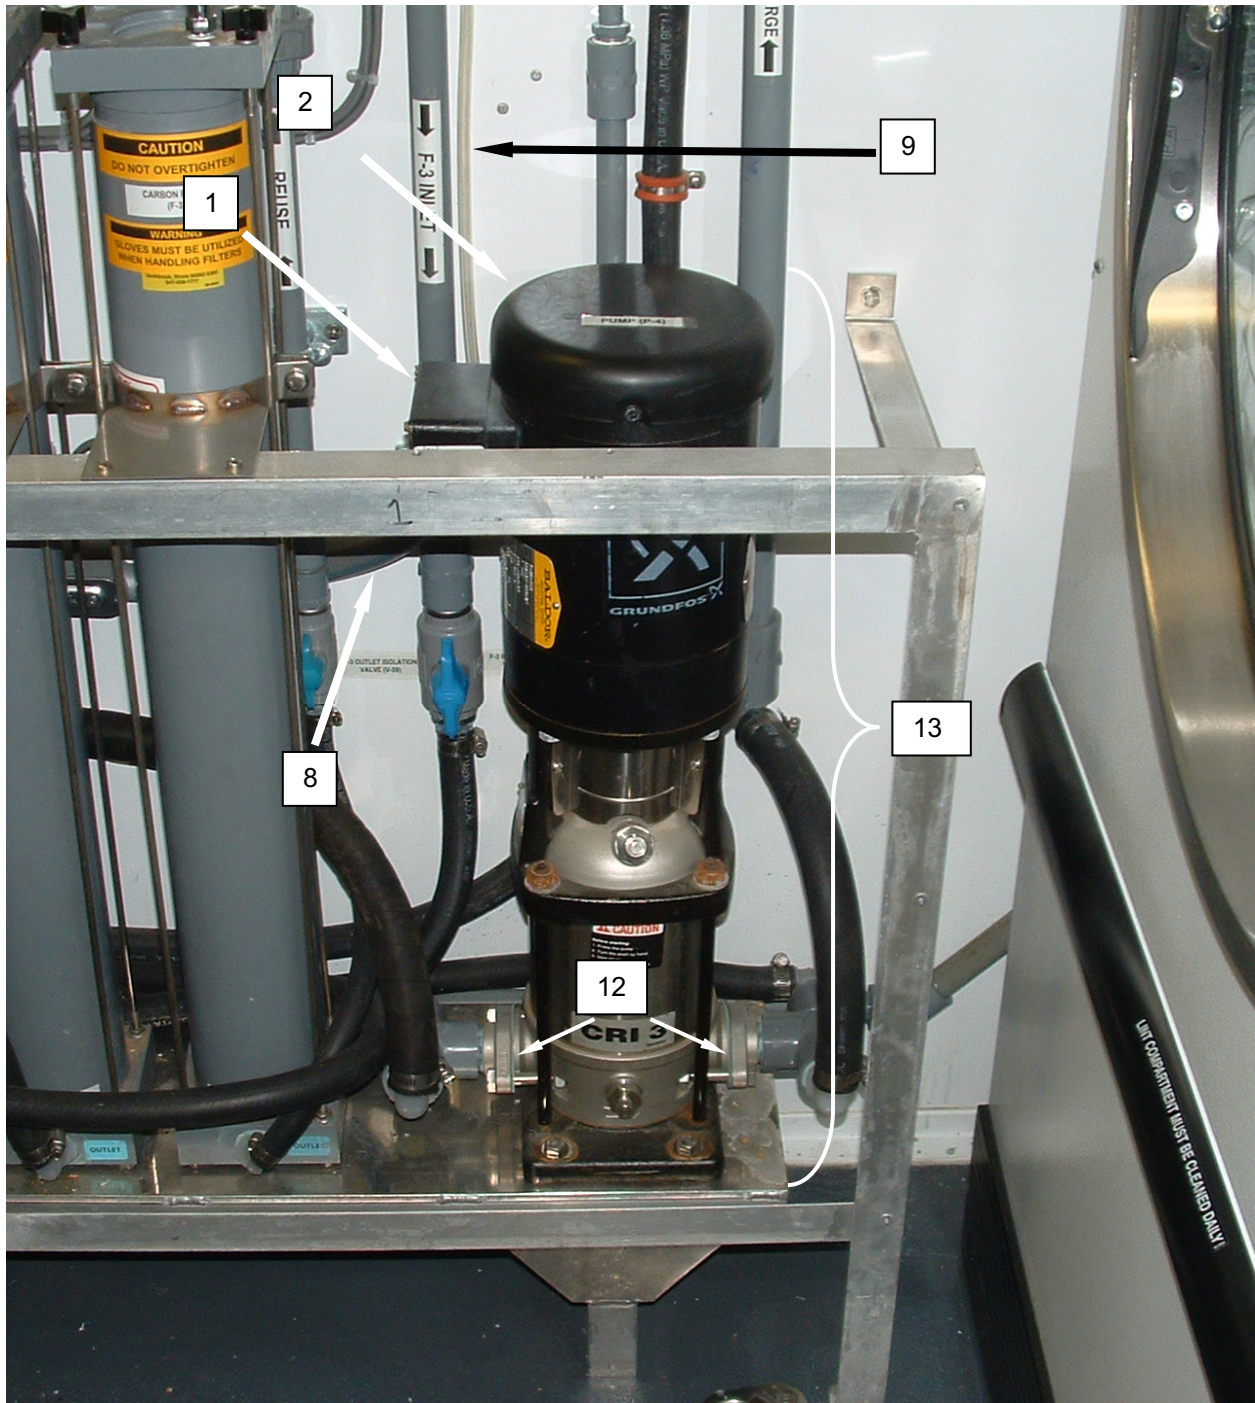

Figure 11. Replace P-4 Pump Assembly.
3. Remove screws retaining cover to pump junction box (**Figure 11, Item 1**) and remove cover.
4. Tag and disconnect wiring from pump motor (**Figure 11, Item 2**).
5. Remove locknut retaining conduit (**Figure 11, Item 8**) and remove conduit.
6. Remove bolts, washers, and nuts retaining pump inlet and outlet flanges (**Figure 11, Item 12**), and separate flanges from pump.
7. Remove vent hose (**Figure 11, Item 9**).
8. Remove bolts, washers, and nuts (**Figure 11, Item 13**) securing pump to pump mount, and remove pump.
9. Install replacement pump (**Figure 11, Item 2**) and retain with bolts, washers, and nuts.
10. Install new gaskets on inlet and outlet flanges (**Figure 11, Item 12**).
11. Attach inlet and outlet flanges (**Figure 11, Item 12**) to replacement pump (**Figure 11, Item 2**) and retain with bolts, washers, and nuts.
12. Install vent hose (**Figure 11, Item 9**).
13. Remove screws retaining cover to pump junction box (**Figure 11, Item 1**) and remove cover.
15. Install conduit (**Figure 11, Item 8**) onto replacement pump motor (**Figure 11, Item 2**) and retain with locknut.
17. Install cover to pump junction box (**Figure 11, Item 1**) and retain with screws.